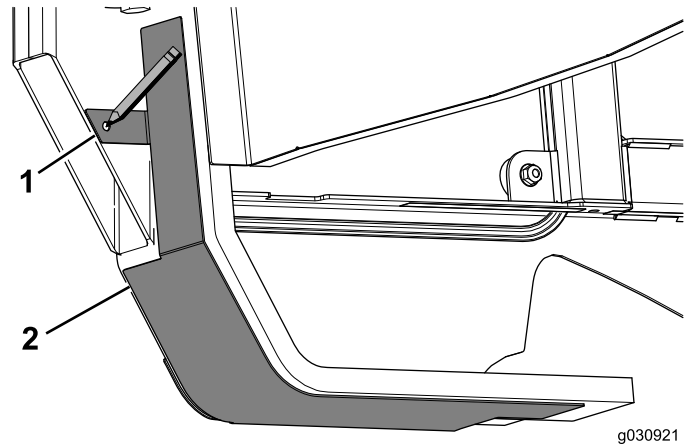

Figure 27
3. Locate and drill a hole large enough for the bolt (1/4 x 3/4 inch) to secure the tab on the panel assembly (Figure 27).